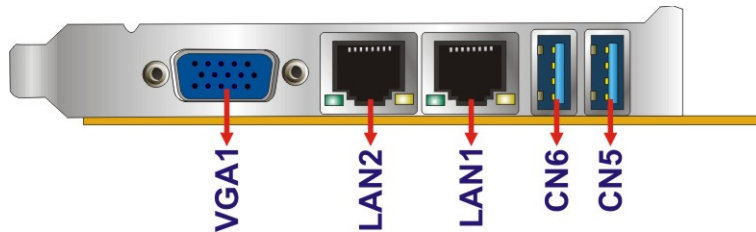

Figure 3-28: External Peripheral Interface Connector
- CN Location:** See **Figure 3-28**